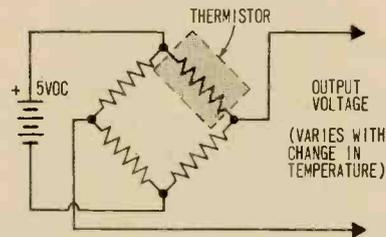

Fig. 2. Negative temperature coefficient thermistor in bridge circuit gives output voltage changes directly proportional to temperature changes.
**Electric Thermometer.** Now let's see how the resistance-changing transducer can be used in a bridge circuit such as shown in Fig. 2. Here, a thermistor is used as one